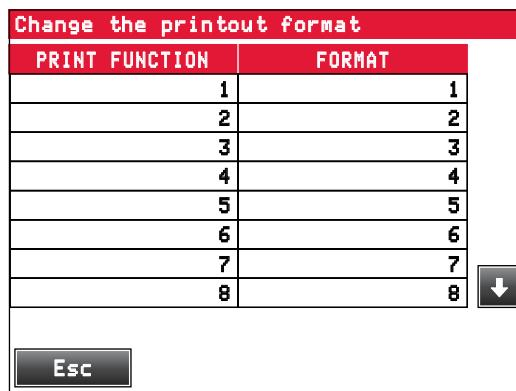

Figure 3-20. Change Print Format Table
4. Press . Figure 3-20 displays.